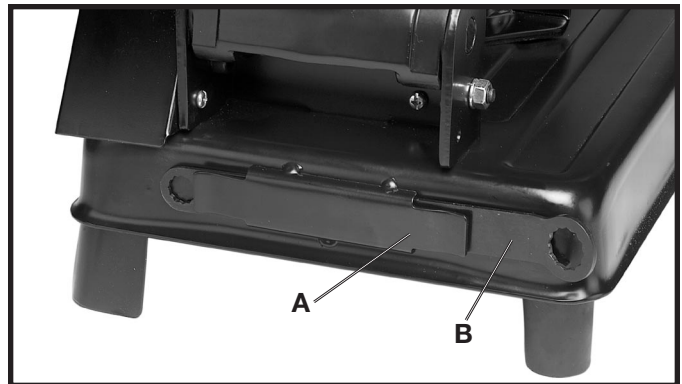

Fig. 14
A slot (A) Fig.14, is provided on the back of the machine base for convenient storage of the adjusting wrench (B), which is supplied with your machine. Fig. 14 illustrates the wrench (B) stored in position in the slot.